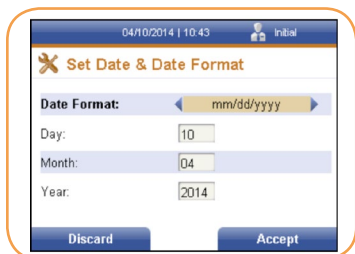

FIGURE 12
1. Use the [↓] key to cursor down to the Date & Date Format menu item. Press the right soft key to select it. The Date & Date Format screen is displayed (Figure 12).